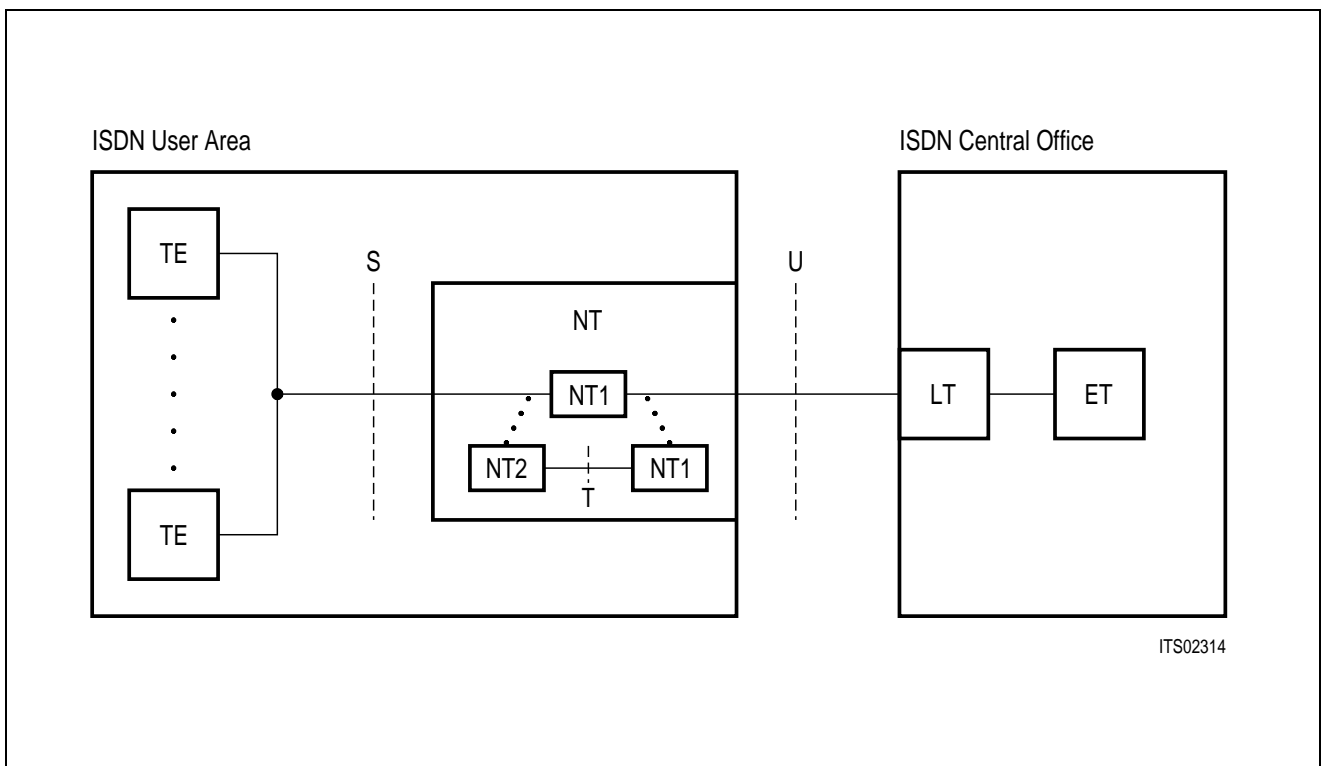

Figure 4
- a remote network termination in the user area (NT)
- a four-wire link (S interface) which connects subscriber terminals and the NT in the user area as depicted in **figure 4**.